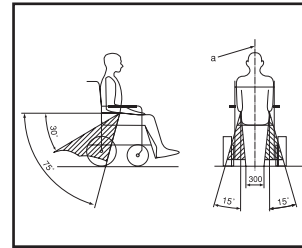

Figure 3
- The lap belt must be positioned low across the user's waist (see figure 3). The angle between the belt and the floor must be between 30° and 75° (a bigger angle is better).